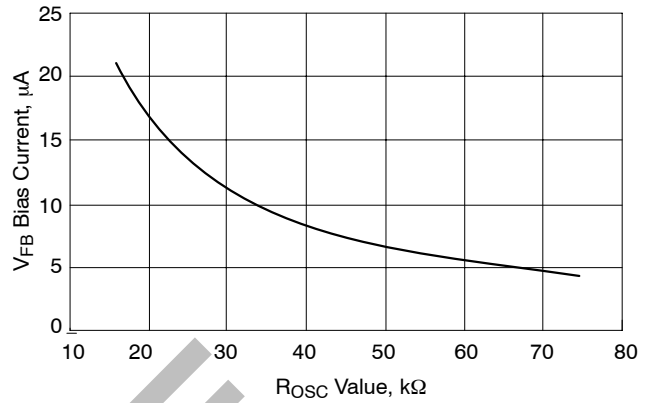

Figure 4. V_{FB} Bias Current vs. R_{osc} Value
2. The V_{FB} Bias Current changes with the value of R_{OSC} per Figure 4.
To set the no–load positioning, a resistor is placed between the output voltage and V_{FB} pin. The V_{FB} bias current will develop a voltage across the resistor to increase the output voltage. The V_{FB} bias current is dependent on the value of R_{OSC} . See Figure 4.